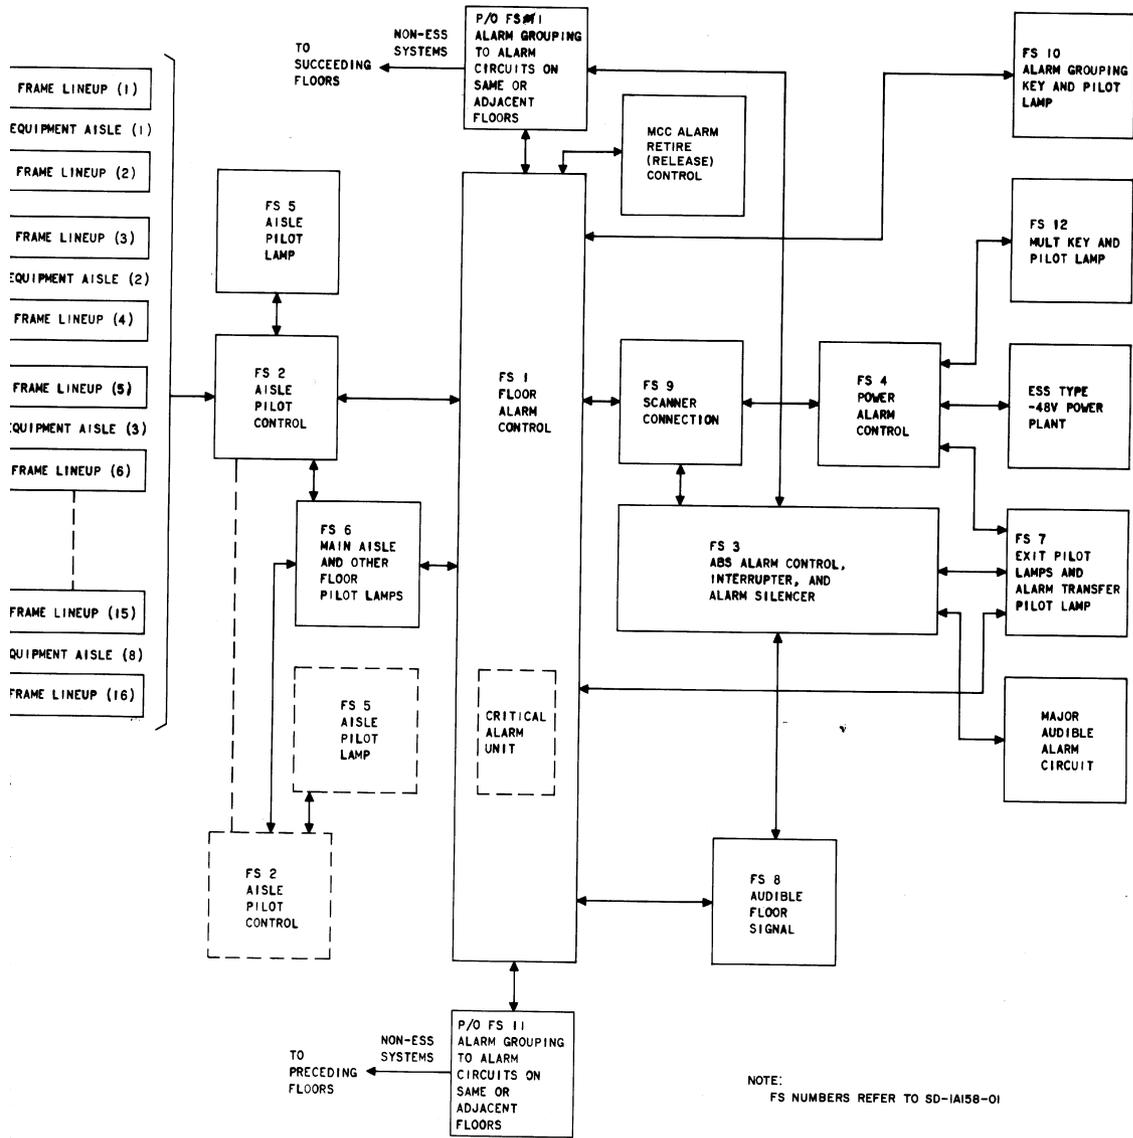

Fig. 13—No. 1 or No. 1A ESS Office Alarm System Block Diagram
3.01 Functions of the office alarm system are to provide the audible and visual indications used in an ESS office to report critical, major and minor office alarms, major and minor power alarms, and alarm battery alarms in both switchroom and power areas. Figure 13 is a block diagram of the office alarm system.